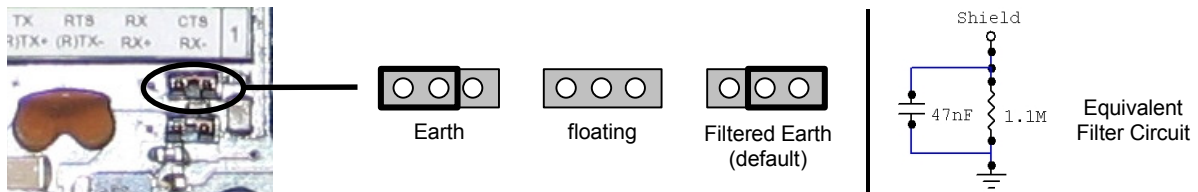

Figure 7— Shield to Protection Earth Jumper Settings
-	Connect the Network Cable Shield (Shield) to Filtered Earth through the jumper (default setting, see Figure 7).